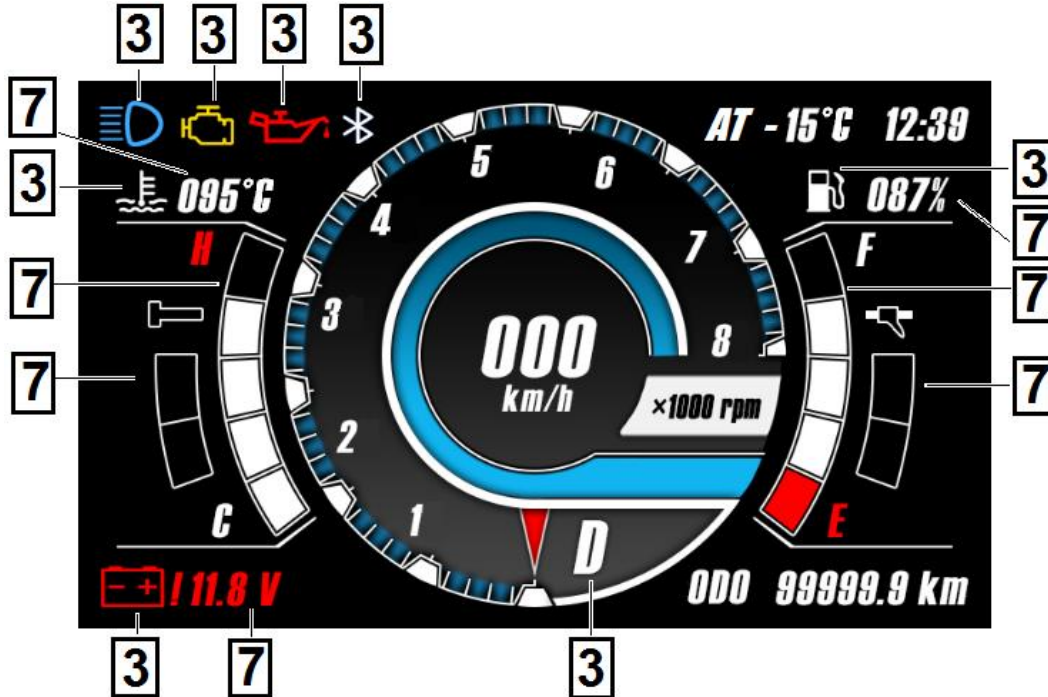

Fig. 20
The white color of the signal indicator (pos.3, Figure 20) indicates that it is inactive.
<p>Fuel level indicator</p> <p>1 - Fuel level classification indicator. 2 - Digital fuel level indicator. Displays the percentage of fuel level. The scale indicator (POS.7, Figure 20) shows the remaining fuel in the tank. If the display shows a split, please refuel the fuel as soon as possible. Operating at very low fuel levels may cause fuel module failure.</p>
<p>Engine coolant temperature indicator</p> <p>1 - Grading indicator of coolant temperature. 2 - Digital current value of coolant temperature. The classification indicator (PO. 7, Figure 20) of coolant temperature (OH) shows the conditional value between the minimum value (C) and the maximum value (H) in the dial. When the engine OH temperature approaches the maximum value, the last red split will be displayed on the classification indicator of the engine OH temperature. When the engine OH temperature reaches the maximum allowable value, a signal indicator (POS. 3, Figure 20) (POS. 10, Table 1) that exceeds the maximum allowable engine OH temperature will be displayed. OH Temperature - Allows you to monitor the temperature status of the engine.</p>
<p>The voltmeter reading allows voltage control of the onboard network. Display the current on-board voltage value beside the signal indicators (pos.3, Figure 20) and (pos.3, Table 1) in this section. When the battery charging system fails or the onboard network voltage drops below the minimum value, the signal indicator will be changed to the corresponding indicator in this section (point 3, Table 1).</p>
<p>Throttle lever heating element operating status indicator - displays the current operating status of throttle lever heating element. The pointer is on the right side of the display (pos.7, Figure 20). There are three modes:</p> <p>Close. Both cells are black; First mode. A lower cell become white; Second mode. Both cells are displayed in white.</p>
<p>Driver handle heating element operating mode indicator - displays the current operating mode of the driver handle heating element. The pointer is on the left side of the display (pos.7, Figure 20). There are three modes:</p> <p>Close. Both cells are black; First mode. A lower cell become white; Second mode. Both cells are displayed in white.</p>